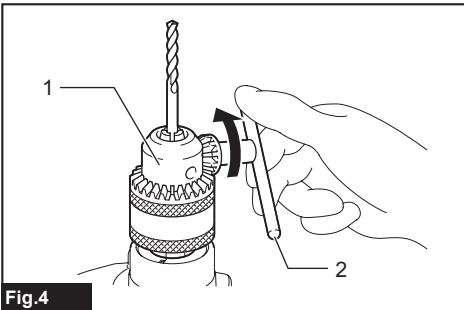

Fig.4
► Fig.4: 1. Drill chuck 2. Chuck key